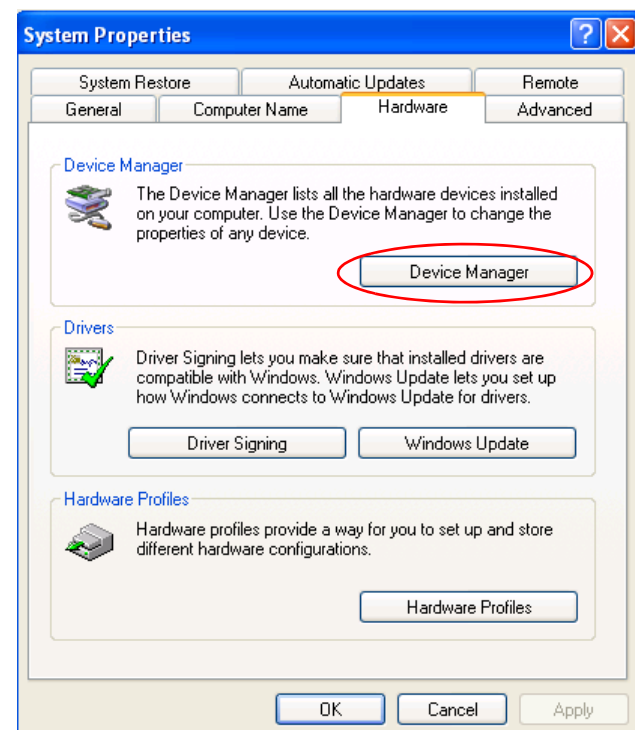

FIG. 6
3. On the “Hardware” page, click the “Device Manager” button. See FIG. 6.